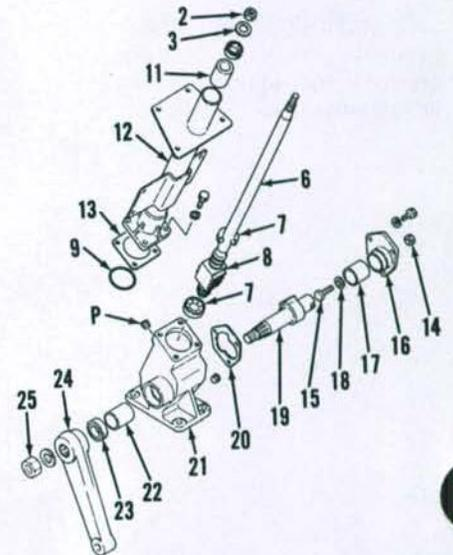
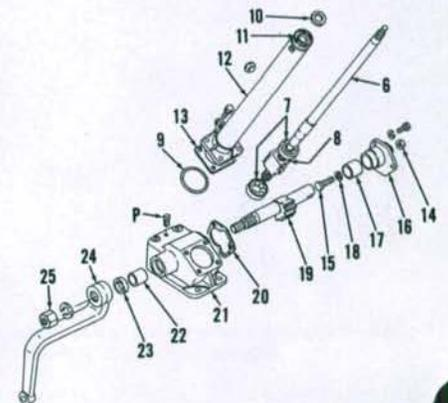

Fig. 5—Exploded view of steering gear typical of type used on YM135, YM135D, YM155 and YM155D models.
Fig. 6—Exploded view of steering gear typical of type used on YM195, YM195D, YM240, YM240D, YM330 and YM330D models. Refer to Fig. 5 for legend.
11. **OVERHAUL.** Remove cap screws attaching side cover (16-Fig. 5 or Fig. 6) to housing (21), remove locknut (14), then turn adjusting screw (15) in to push cover away from housing. Loosen nut (25) and turn shaft (6) until gear on shaft (19) is aligned with opening in